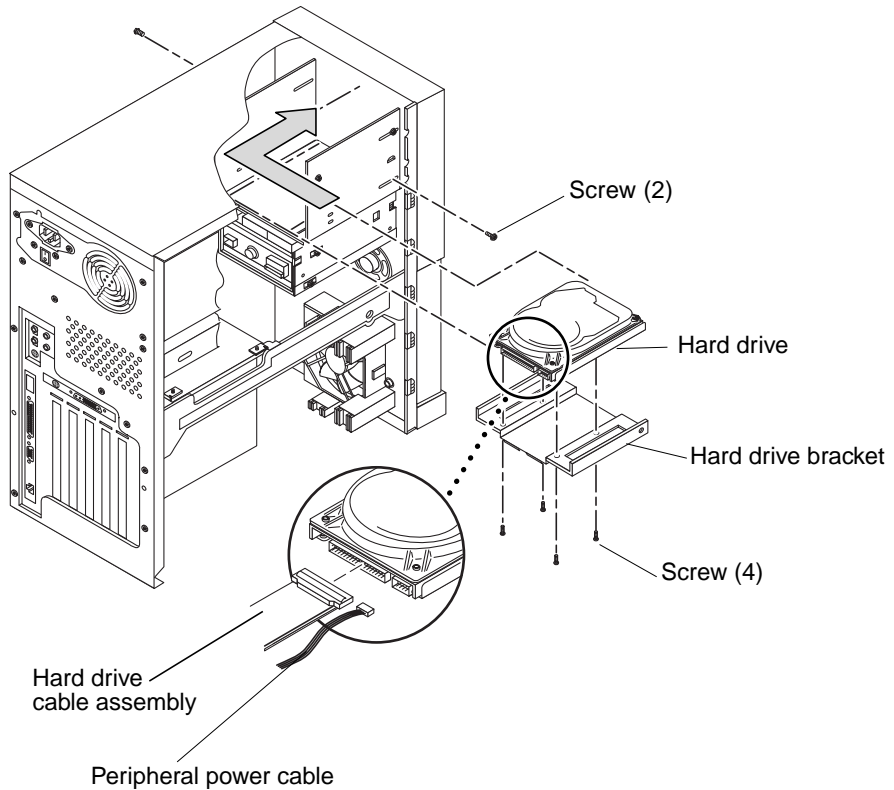

FIGURE 12 Installing or Replacing a Front Hard Drive (Ultra 10)
1. Remove an existing hard drive from the Ultra 10 chassis front as follows (if you are not replacing an existing drive, start with Step 2). See FIGURE 12.
2. Install the new hard drive into the Ultra 10 chassis front as follows (FIGURE 12):